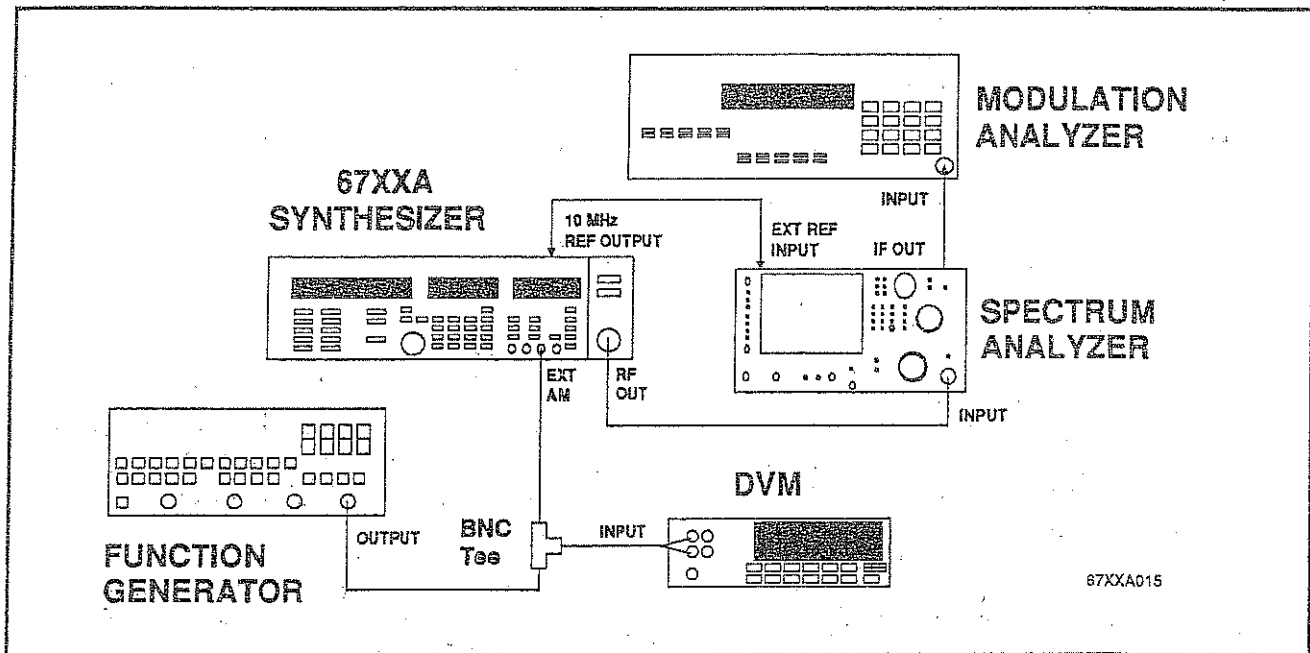

Figure 3-12. Test Equipment Setup for AM Sensitivity Calibration (0.01 to 20 GHz)
1. Connect the equipment as shown in Figure 3-12.